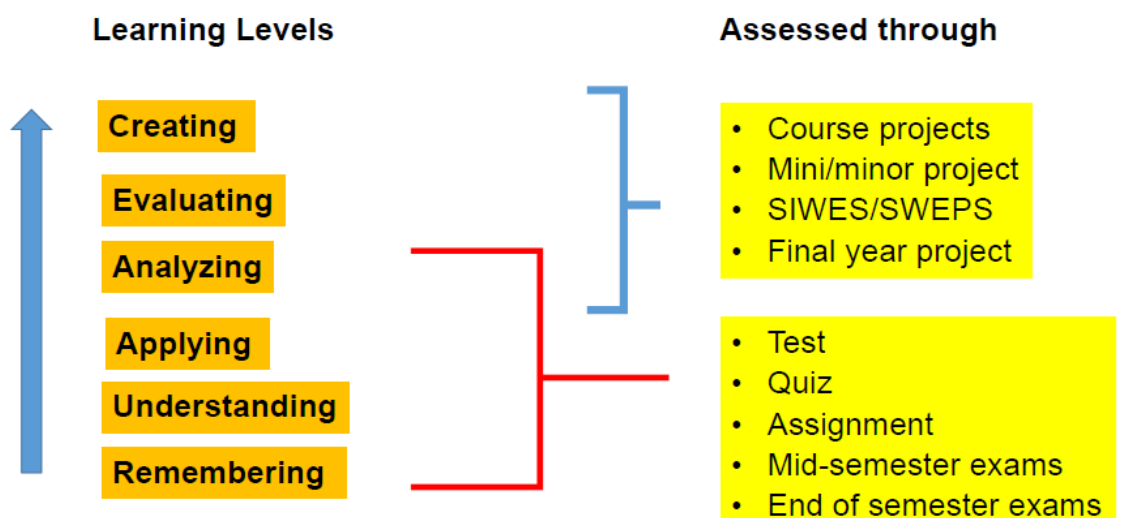

Figure 1: Assessment methods (Source EAC Accreditation Manual, 2025)
- A 2-unit course should contain four (4) questions that cover the syllabus with equal marks, and students are to attempt all questions within two (2) hours.
- A 1-unit course should contain two (2) questions that cover the syllabus with equal marks, and students are to attempt all questions within one (1) hour.
- Depth: Use Blooms Taxonomy to ensure that the depth of questions is commensurate with the level. The cognitive, psychomotor, and affective domains should be tested as applicable through the continuous examinations, final examinations, course project and semester project. A guide is shown in figure 1 below.